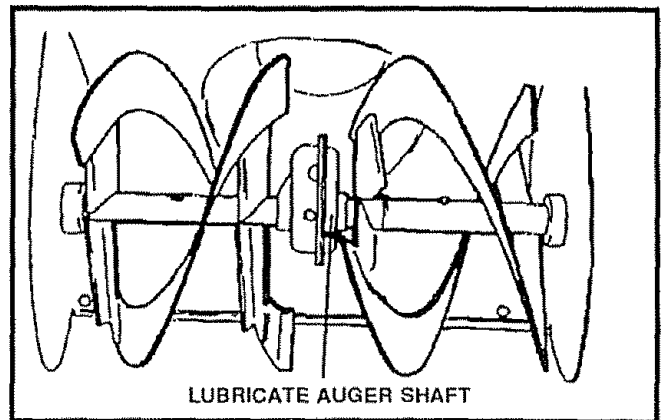

FIG. 16
- Auger Shaft - For storage, lubricate auger shaft (See Fig 16) with a clinging type grease such as Lubriplate. When replacing shear bolts, remove shear bolts and lubricate auger shaft (see To Replace Shear Bolt paragraph on page 22).